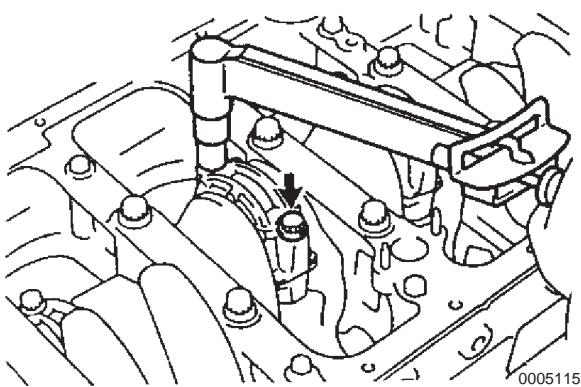

Figure 5-85
9. Install the connecting rod cap with 2 bolts (**Figure 5-85**).